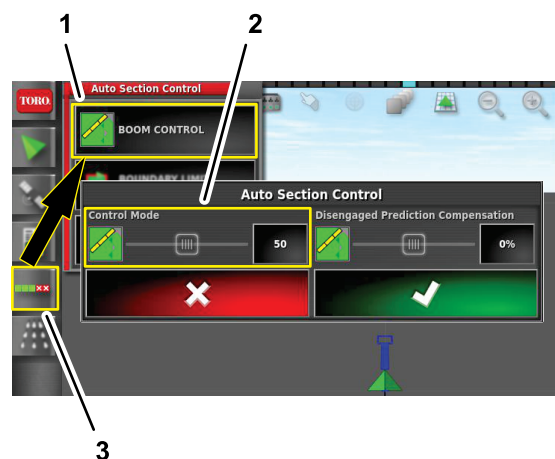

Figure 107
1. Press the AUTO SECTION CONTROL icon (Figure 107).
2. Press the BOOM CONTROL icon (Figure 107).